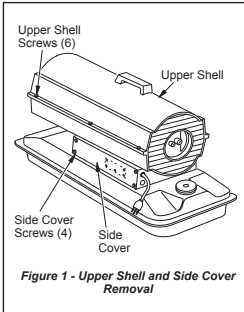

Figure 1 - Upper Shell and Side Cover Removal
- 1. Removing Old Assembly.** Using a 5/16" Nut Driver, remove the six upper shell screws and four side cover screws and remove the upper shell cover and side panel cover. (see Figure 1).